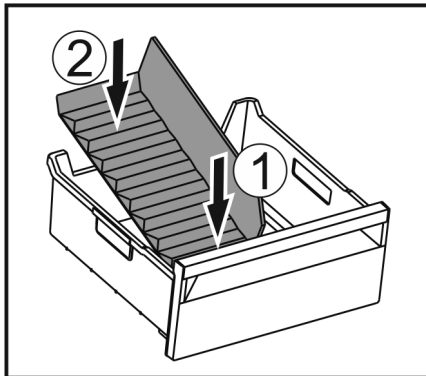

Fig. 214
- Insert the front part of the ice compartment divider. Fig. 214 (1)
- Lower the rear part of the ice compartment divider to the drawer bottom. Fig. 214 (2)